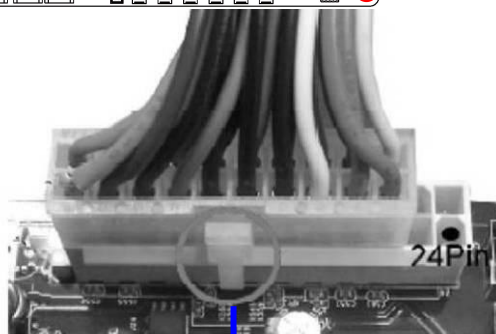

Figure1: 20-pin power plug
** If you are using a 20-pin power plug, please refer to Figure1 for power supply connection. Power plug form power supply and power connectors from motherboard both adopt key design to avoid mistake installation. You can insert the power plug into the connector with ease only in the right direction. If the direction is wrong it is hard to fit in and if you make the connection by force if is possible.